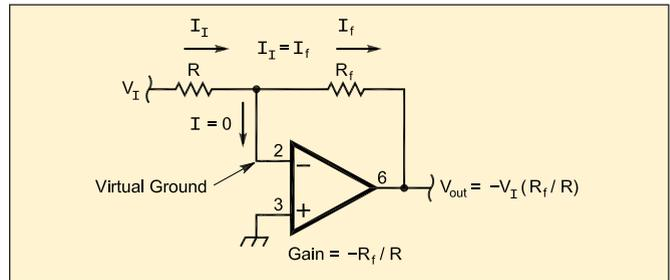

Figure 3—The inverting amplifier.
The high-impedance of the op-amp input can be used to create an inverting amplifier whose gain is also set by the ratio of two resistors. In Figure 3, R and R_f are again connected to the inverting input, but the input signal is connected to the free end of R and the non-inverting input is grounded. How does this work? Remember that the op-amp inputs are balanced, so the inverting input must also be at ground potential. It's not grounded, it's just at ground potential. This is called a "virtual ground."
- Build the amplifier as shown in Figure 3 and connect a 1 V_{p-p} , 1 kHz sine wave to the input. You should see a 3.9 V_{p-p} sine wave at the output, but inverted with respect to the input. Look at the inverting input to verify that it is at ground potential.